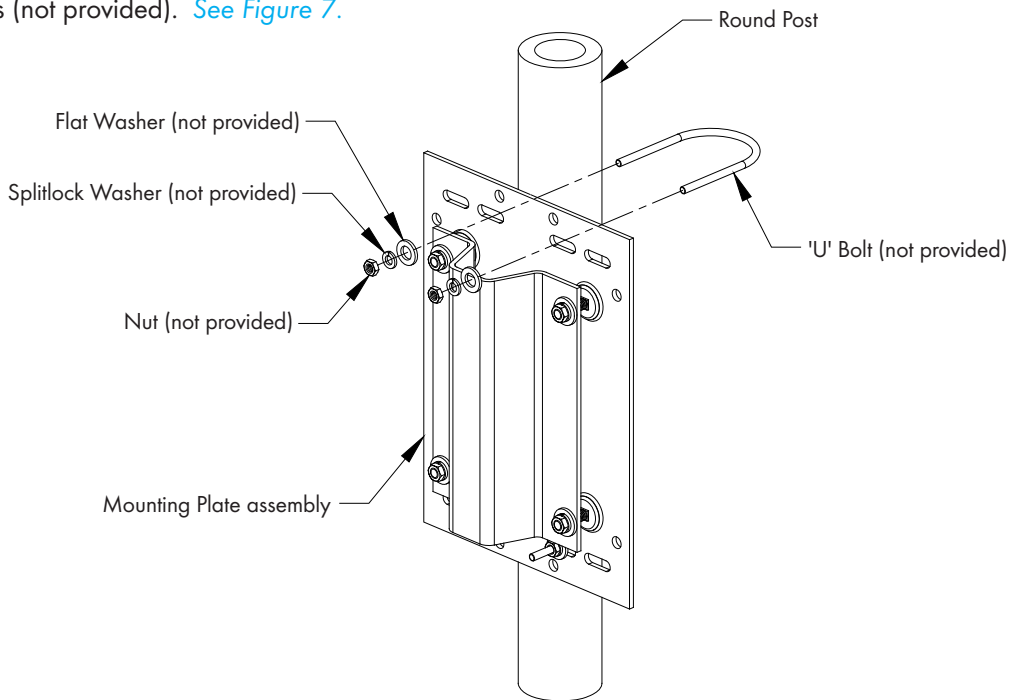

Figure 7
Attach Mounting Plate assembly to round post using (2) 'U' bolts and Flat Washers, Splitlock Washers and Nuts (not provided). See Figure 7.